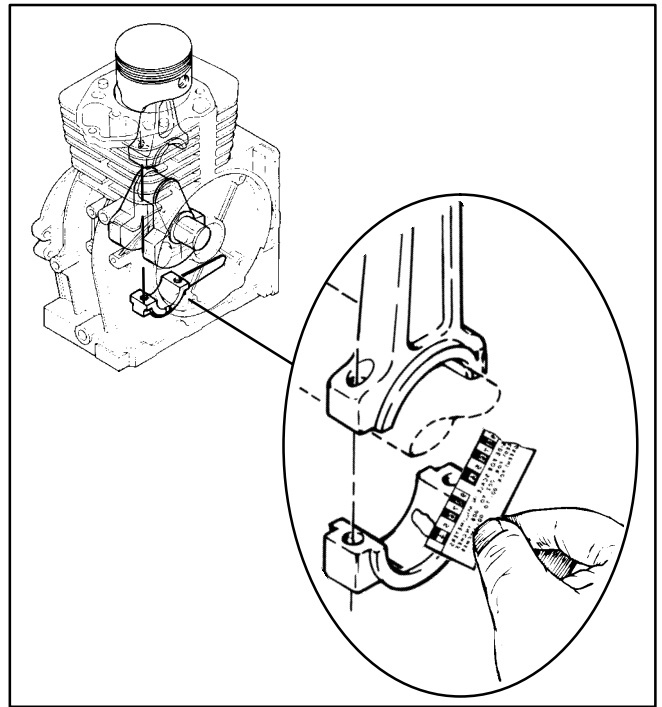

FIGURE 9-36. USING PLASTI-GAGE TO MEASURE CRANKPIN CLEARANCE
2. Place a piece of the correct size Plasti-gage across the full width of the rod cap about 1/4 inch (6 mm) off center (Figure 9-36).